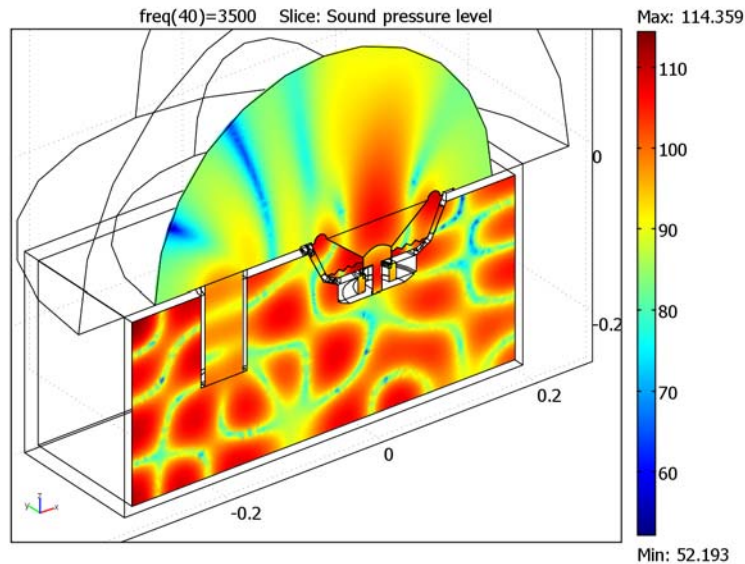

Figure 3-46: Sound pressure level (dB) at 3500 Hz.
- 7 Click **OK** to see the plot, which should look like Figure 3-46.